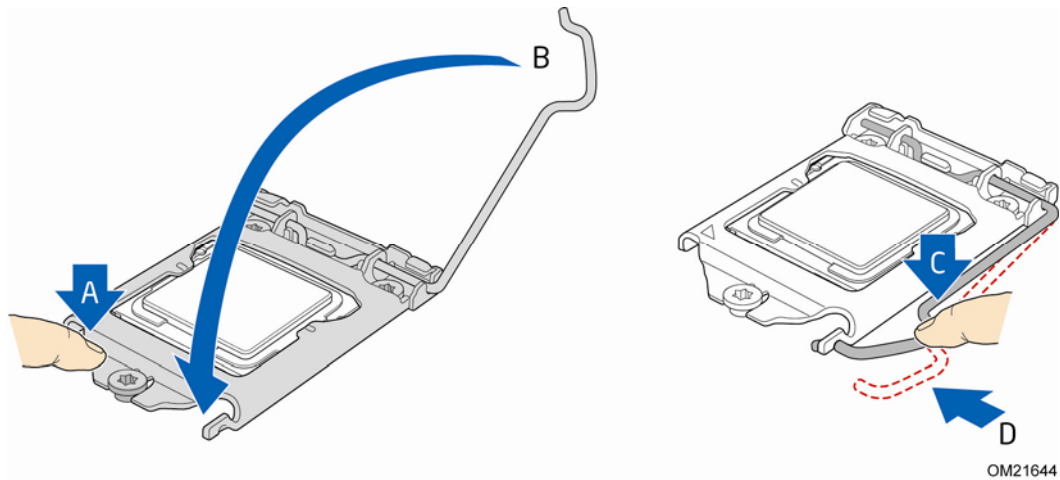

Figure 16. Secure the Load Plate in Place
8. Lower the socket lever (Figure 16, B) while making sure that the front edge of the load plate slides under the shoulder screw cap as the lever is lowered (Figure 16, A). Latch the socket lever under load plate tab (Figure 16, C, D).